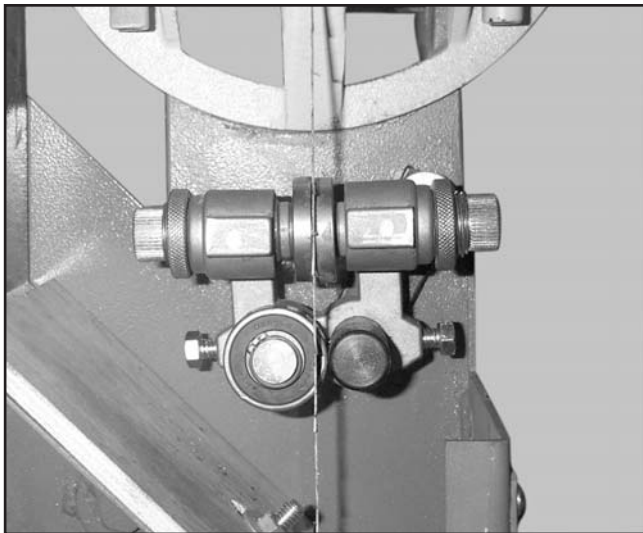

Figure 17. Guide bearings properly adjusted.
1. Carefully tighten the guide adjustment knobs until the guide bearings just touch the blade on each side as in **Figure 17**. Do not deflect the blade while making this adjustment and do not over-tighten!